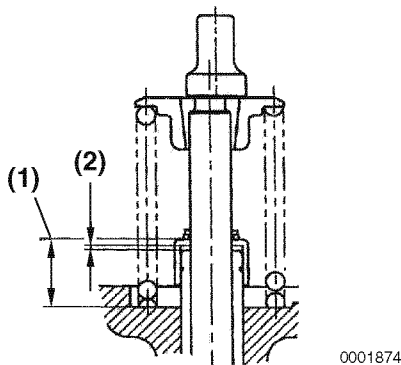

Figure 6-68
2. Measure the distance (**Figure 6-68, (1)**) from the cylinder head to the valve stem seal to ensure proper clearance (**Figure 6-68, (2)**) between the guide and seal. See *Intake / Exhaust Valve and Guide on page 6-5*.